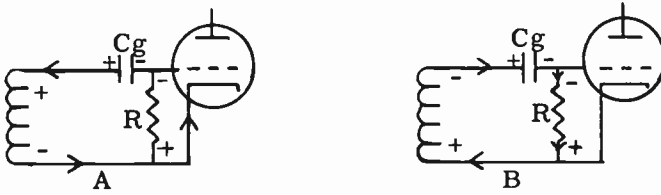

FIG. 12-6. GRID-LEAK BIAS.
**GRID-LEAK BIAS.** Efficient operation of an oscillator requires that it have a high cutoff bias. There are several ways of obtaining this large bias. One way is from a battery; another is by means of a negative voltage power supply. However, in the case of a vacuum tube oscillator, a practical way of obtaining this high cutoff bias is by using a resistor and capacitor connected in the grid circuit, as shown in Fig. 12-6. This is called **GRID-LEAK BIAS**, and is used in all oscillators. A simple explanation of grid-leak bias is as follows: